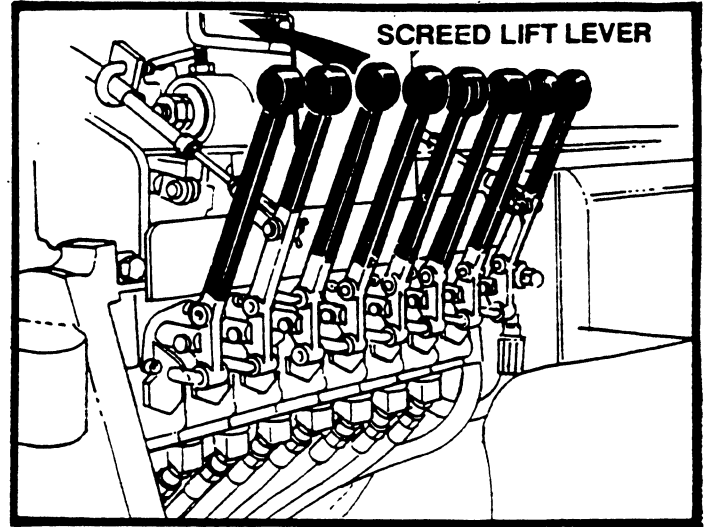

FIGURE 3
5. Push screed valve lever all the way forward into float position. This will take the hydraulic pressure from the cylinder, allowing screed to float. See figure 3.